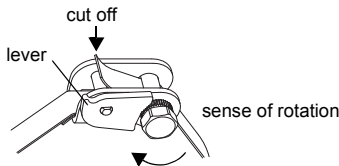

Fig. 7.19: Ratchet clasp with tension strap
- Cut off the protruding tension strap (see Fig. 7.19).
Note! To release the screw and the tension strap press the lever down (see Fig. 7.19).